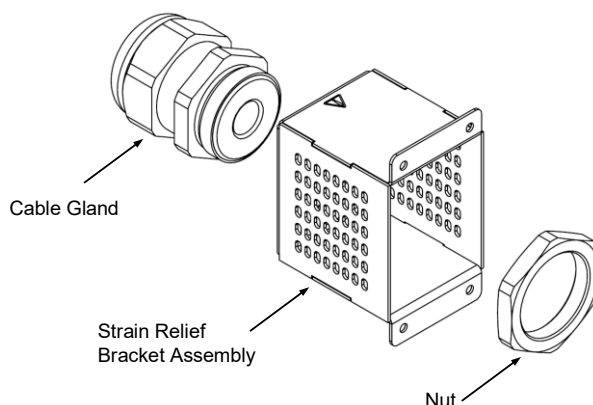

Figure 7-9: Insertion of the Plastic Nut into the Cable Gland
2. Insert the cable gland into the strain relief bracket assembly as shown in **Figure 7-9**.